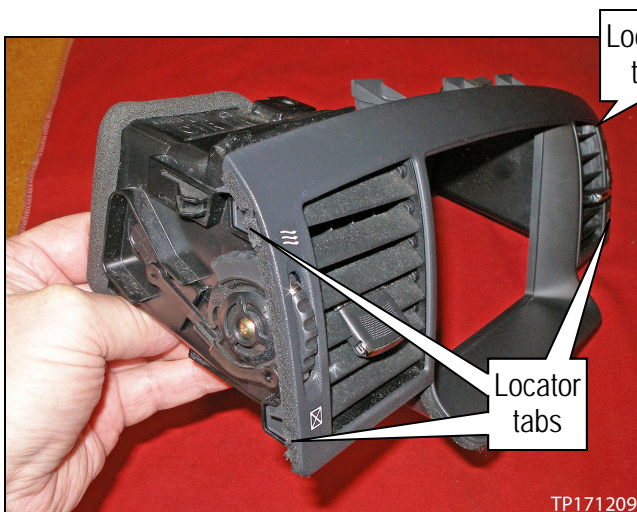

Figure 13
- See location of locator tabs and where they fit in the instrument panel pad in Figure 13 and 14.